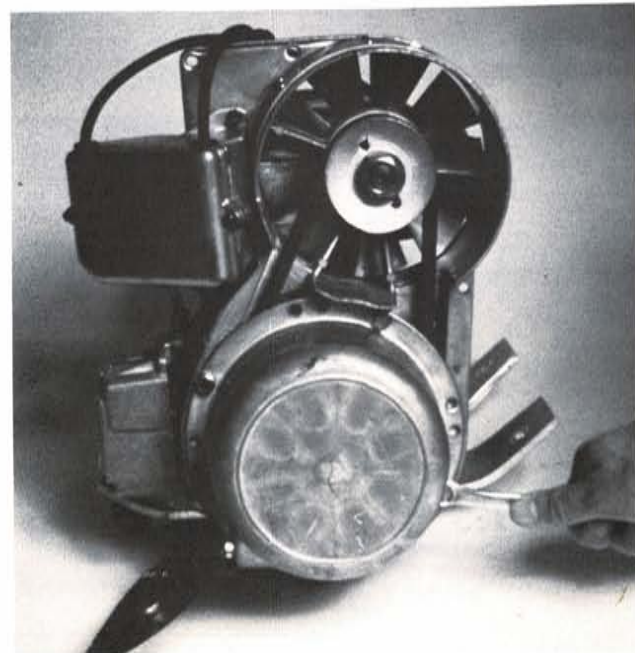

FIG. 11
9. Remove four bolts that secure retractable starter housing. (Fig. 11)